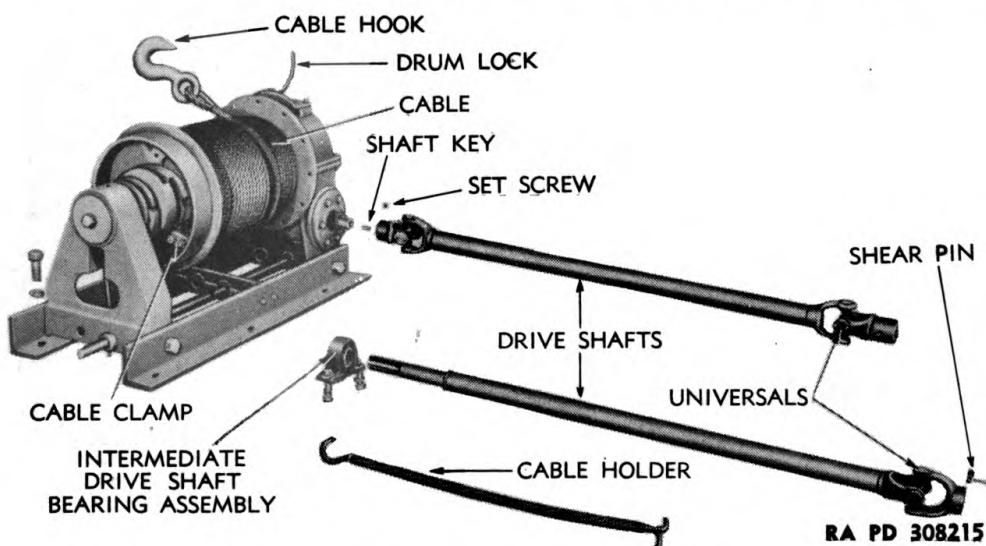

Figure 113 – Winch and Winch Drive Shafts
a. Remove Cable From Drum (fig. 113). Lift winch assembly onto blocks or suitable bench with chain hoist. Unhook line holder from around drum of cable. Unlock cable drum lock at top of gear housing; see that jaws of sliding clutch are disengaged from jaws on